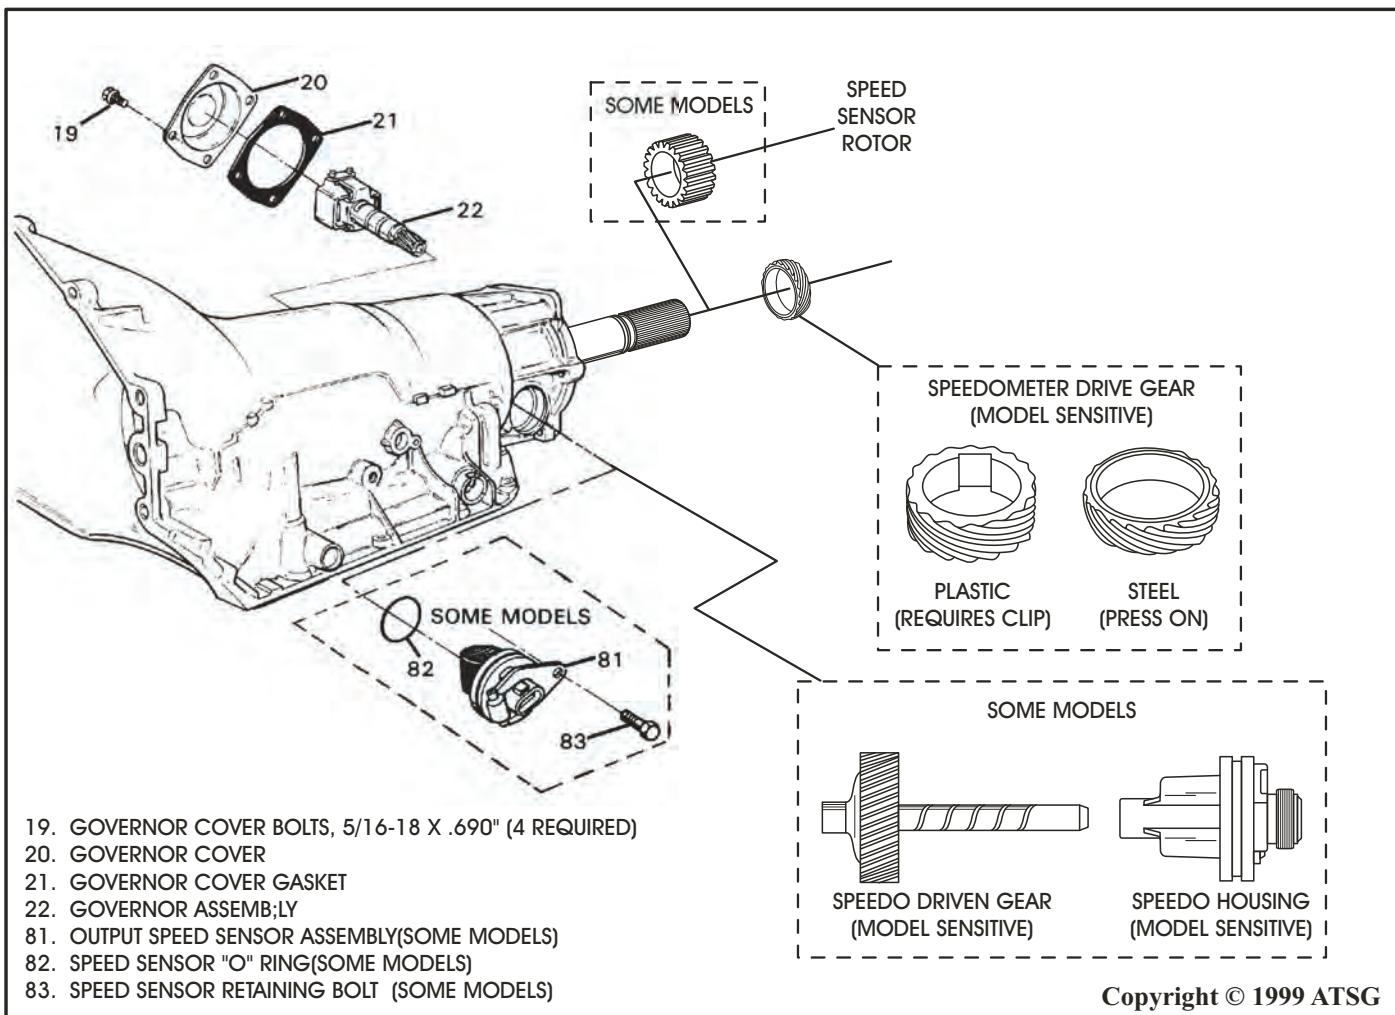

Figure 129
73. Install the governor assembly into case bore by rotating into position (See Figure 129).
74. Install the governor cover with a new gasket as shown in Figure 129, and torque the 4 bolts to 14 Nm (125 in.lb.).
75. Install the proper speedo drive gear or speed sensor rotor onto the output shaft if it has not been previously installed (See Figure 129).
76. Install the speed sensor or the speedometer drive gear and adapter and torque the retaining bolt to 7 Nm (62 in.lb.) (See Figure 129).